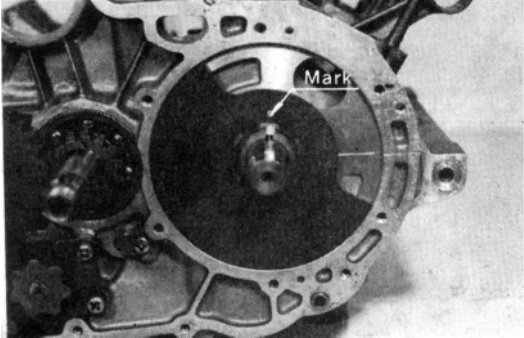

Fig. 38 Fitting rotary valve
9. Match the key position of rotary valve collar with the mark on the rotary valve. (Fig. 38)